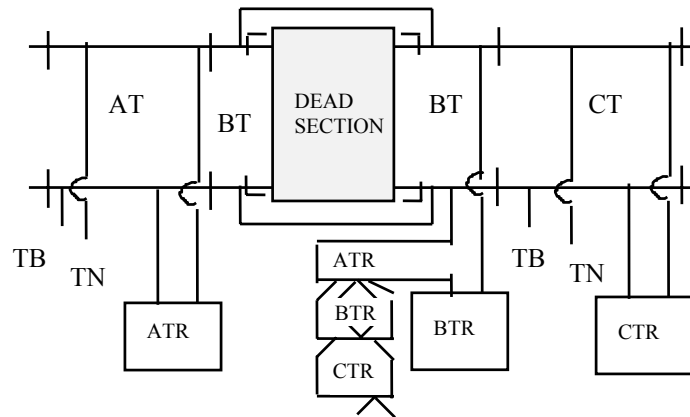

FIG.NO. 8
- Check the current & voltage at feed end and relay end with & without charger as shown in Fig. no. 8 & 9, ensure that it is within limit i.e. less than 250% of PU value.